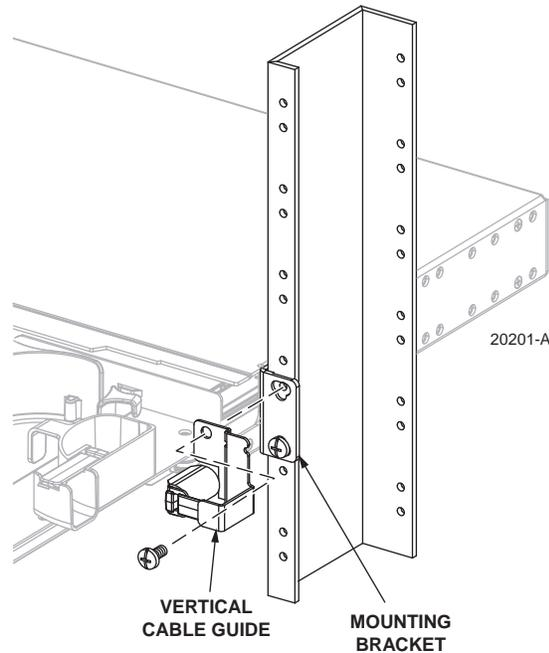

Figure 5. Installing VCGs (19-Inch Rack Mount)
3.1-inch (7.9 cm) 5-inch (12.7 cm) 6.5-inch (16.5 cm)	Figure 5
- b. Recess is 3.1-inch (7.9 cm), 5-inch (12.7 cm), or 6.5-inch (16.5 cm), mount the VCGs on the rack narrow flange using the same screw and hole position as used for the top mounting screw on the panel mounting bracket. Refer to Figure 5.